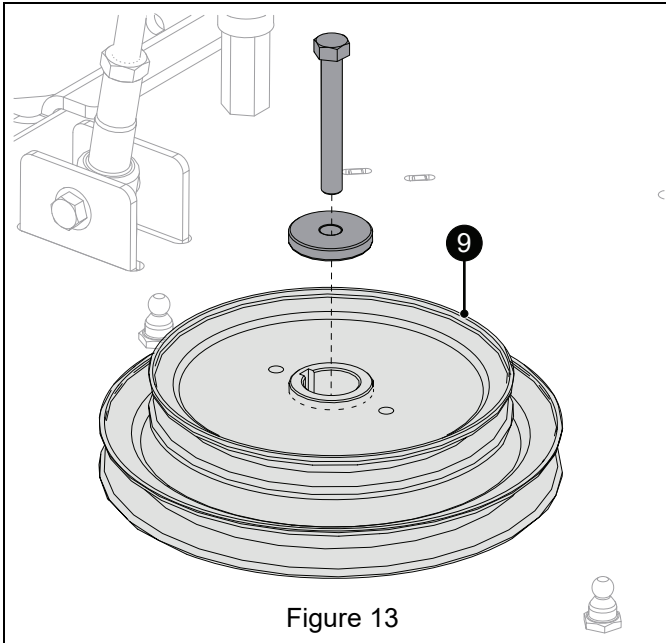

Figure 13
15. Install double pulley (item 9) onto spindle housing using hardware just removed. Torque spindle pulley mounting bolt to 55.6 N•m (41 lb-ft) – 66.4 N•m (49 lb-ft). See Figure 13.